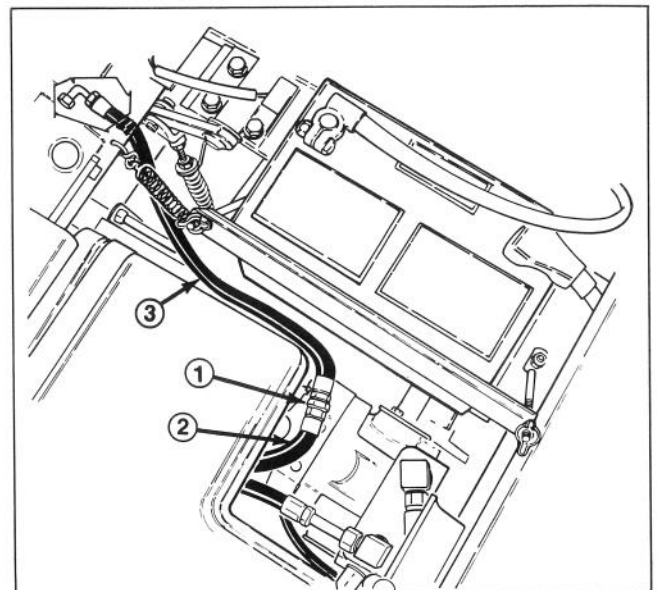

Figure 12
4. Using the male to male ORFS coupler, connect the straight fitting end of the new long 3/8" ID flexible line to the end of the line that was disconnected in step 3 (Fig. 12). Route this line through the lower right hand hole in the vertical frame plate (Fig. 4). Do not tighten the coupler fittings at this time.